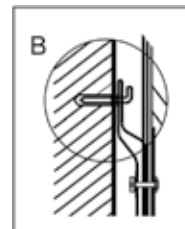

Fig. 6
2. After you chose the proper place to install the water heater, determine points for expansion hook bolts (to be determined in accordance with the data sheet for the appliance you chose). Drill two holes of the corresponding depth in the wall using a drill, dimensionally fit for expansion bolts, enclosed with the water heater, insert bolts, turn the hook upwards, securely tighten nuts and then hang the electric water heater on these hooks (see Fig. 6).